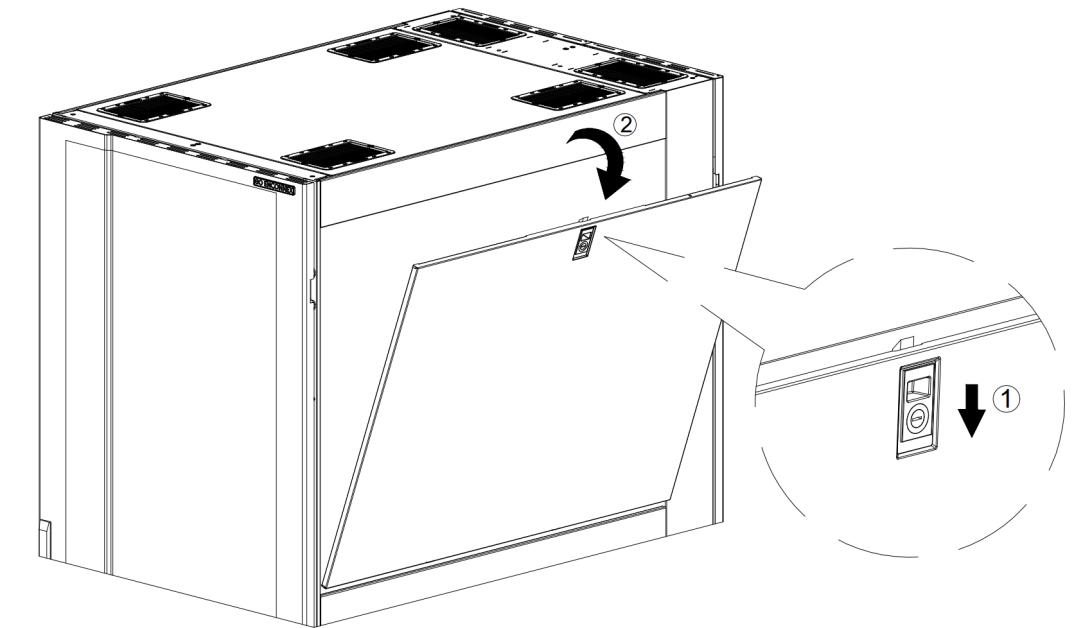

Figure 6.2.2
- Remove the side panel and place it somewhere safe. (Figure 6.2.2)